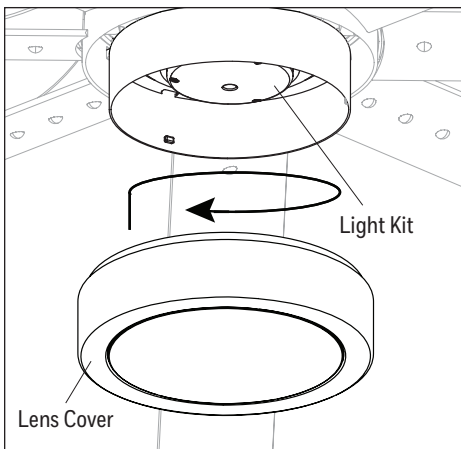

Figure 5.7
- Attach the lens cover to the light kit by twisting the lens cover tightly in a clockwise direction (Figure 5.7).